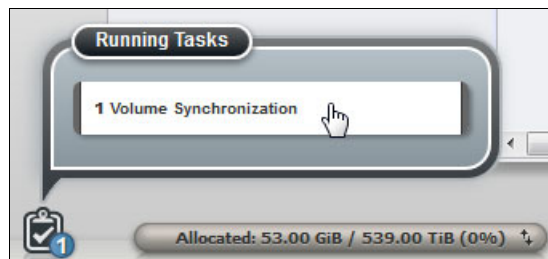

Figure 5-7 Running Tasks display
3. To display the progress of the VDisk copy process, click **Running Tasks** at the bottom of the GUI, and select **Volume Synchronization**, as shown in Figure 5-7.